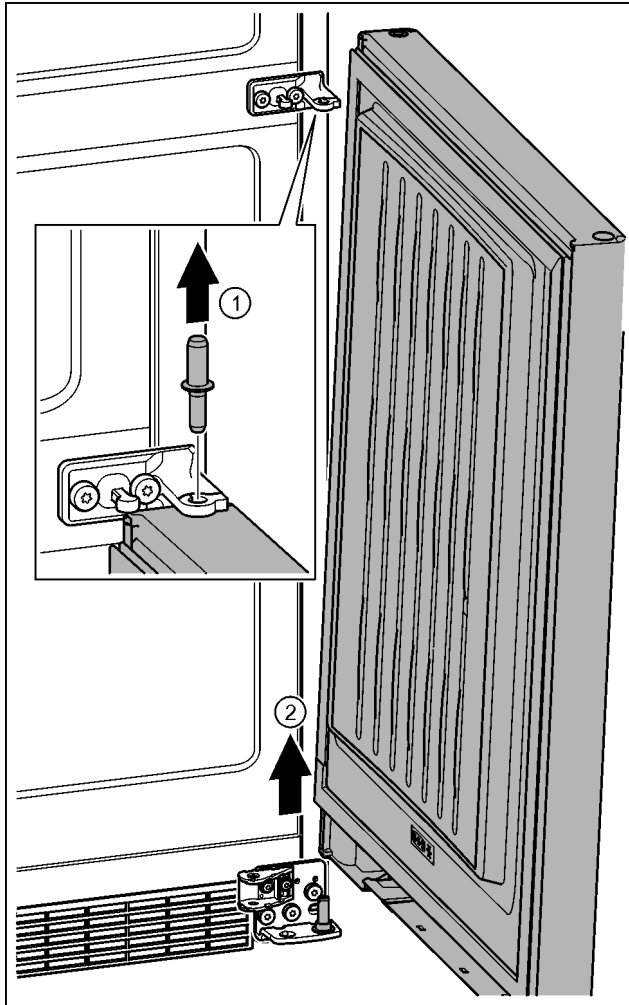

Fig. 24
- ▶ Pull out the bolts towards the top. Fig. 24 (1)
- ▶ Swing the door out, pull it upwards and set it aside. Fig. 24 (2)